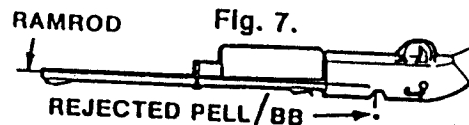

Fig. 7.
- Carefully push the jammed BB or Pellet out into the Receiver Loading Recess and discard. (Fig. 7).